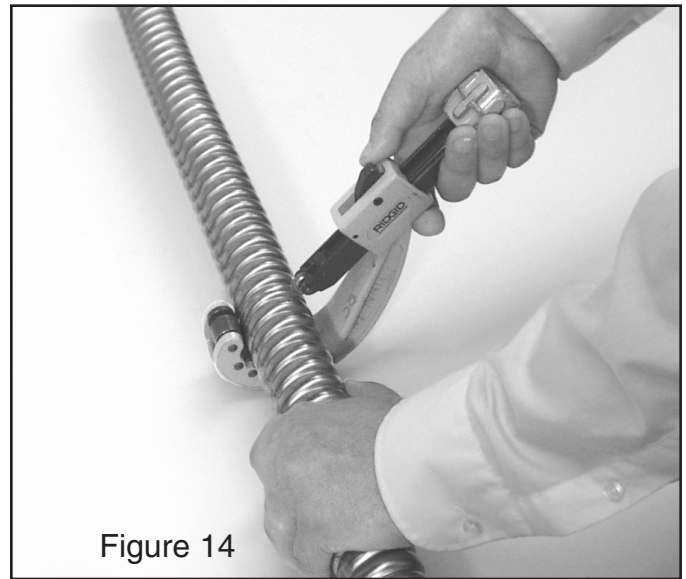

Figure 14
1. Mark where the armor is to be cut by wrapping tape around the cable as a guide. Use a tubing cutter to cut the armor. The cutting wheel should be adjusted at the crest of a corrugation and rolled back and forth in ever increasing arcs while advancing the wheel until a 360 degree turn can be made without the tool wobbling off track. (Figure 14)